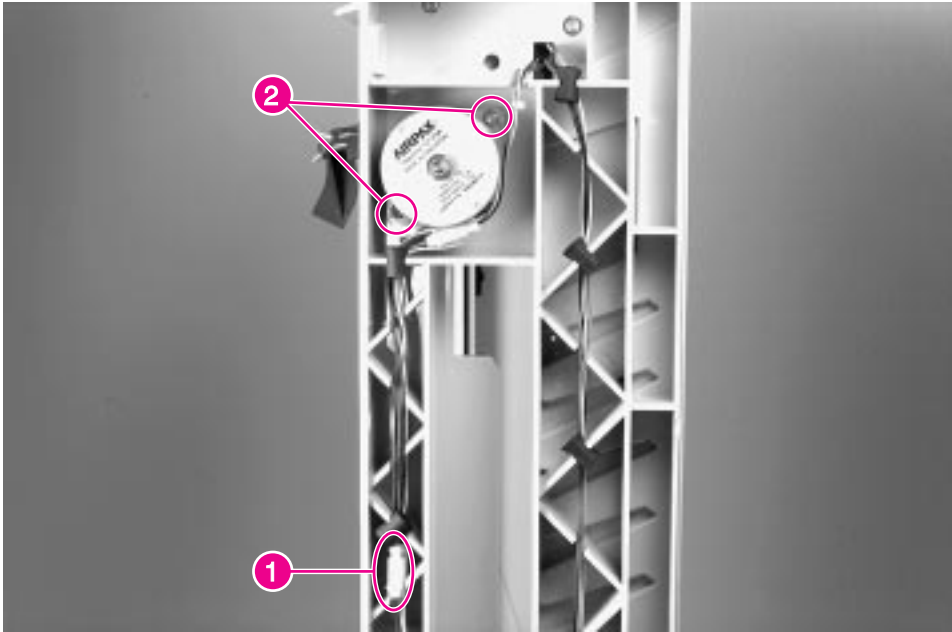

Figure 6-71 Mailbox with Stapler, Delivery Head Motor
- 3 Remove the Delivery Head Position Motor (see figure 6-71 on page 240).
- 2 Remove the Delivery Head Position Motor (see figure 6-71 on page 240).
- 2 Unplug the cable connector (figure 6-71, callout 1).
- 3 Remove 2 screws (figure 6-71, callout 2), slide the motor downward to release it from the frame, and lift it straight out of the frame.